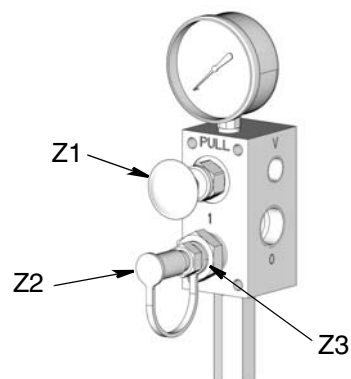
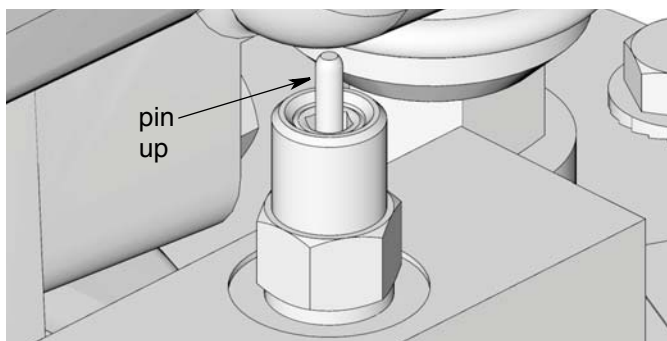

FIG. 17
FIG. 19
3. Remove yellow dust cover (Z2) from fill coupler (Z3) (FIG. 17).
4. Connect refilling line (AA) between the remote filling stations pump (P) and fill coupler (Z3) port marked with an "I" (FIG. 17).
5. Start remote filling station pump (P).
6. When reservoir (K) is filled:
- the Remote filling station pump (P) stalls (dead-heads),
- Auto-Fill Shut Off (S) pin pops up see FIG. 19,